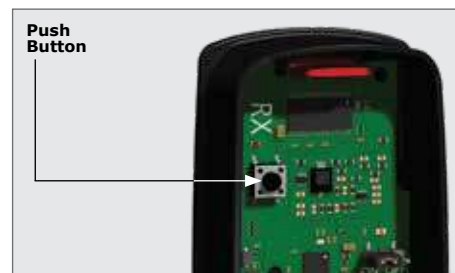

FIGURE 9
To enter the Alignment Mode, the button shown in Figure 9 must be pressed for longer than 10 seconds; to indicate that the 10 seconds have expired, the LED will turn off for a short time and then turn on again.
8. The application will now scan for the **Photon SMART** infrared beams/photocells. It will then ask to press the button located on the top left of the receiver PCB, shown in Figure 9.